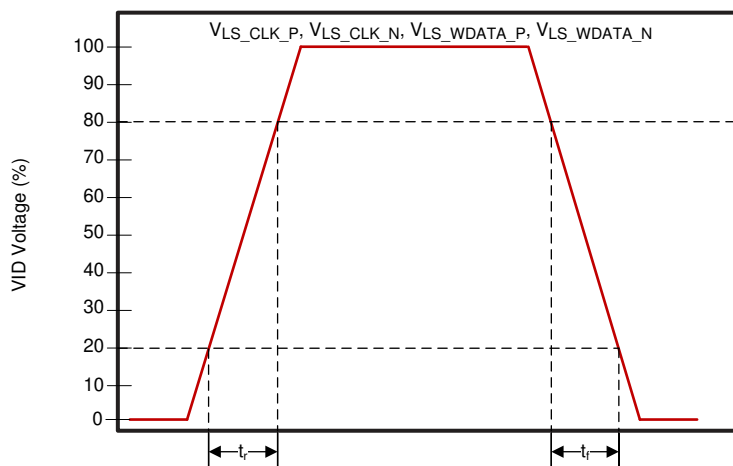

Figure 6-5. LSIF Rise, Fall Time Slew
(2) See Figure 6-5 for rise time and fall time for LSIF.